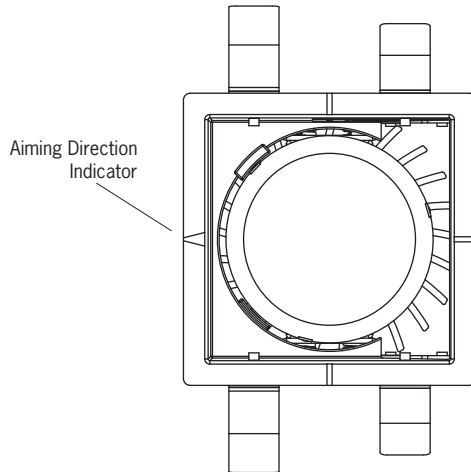

FIGURE 2
- If housing square aperture is slightly out of desired position, minor adjustments can be made by loosening the two wing nuts located on the top of the housing frame. (Figure 2). Once aperture is in position, the wing nuts should be securely tightened so aperture cannot be moved out of position.